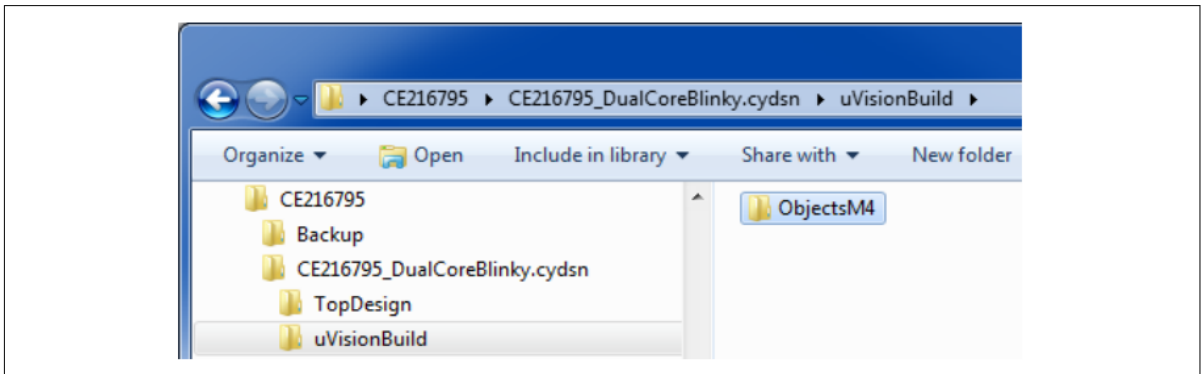

Figure 13 New folders for μ Vision projects
Recommended: create a new folder (For example, `μ visionBuild`) within your PSoC™ Creator <project>. `cydsn` folder to store all μ Vision project files separately from the PSoC™ Creator files (this is different from the IAR instructions). Within that folder, create another new folder for CM4 object files (For example, `objectsM4`), as Figure 13 shows:
- In the **Options** dialog, **Output** tab, click **Select Folder for Objects...**, and select the `ObjectsM4` folder that you created; see Figure 13